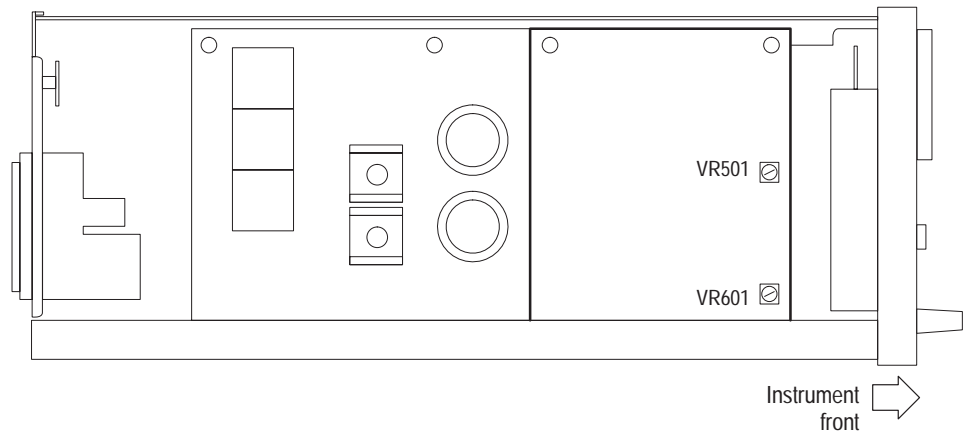

Figure 13: VR501, VR601 adjustment location
10. Adjust VR501 and VR601 to the settings listed in Table 11. (See Figure 13 for the adjustment locations.) Following the adjustment, enter the DMM reading on the power supply keypad and press (←).
cL11 Voltage Full Scale Calibration. To calibrate the full-scale voltage, adjust VR601, VR501, or VR401 using the instructions in Table 14. Refer to Figures 13 and 14 for the adjustment locations.